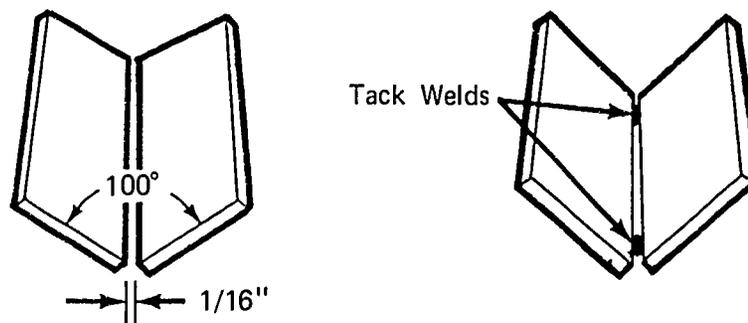

FIGURE 1
- C. Position two plates to form a corner joint and tack on the back side of the joint (Figure 1)